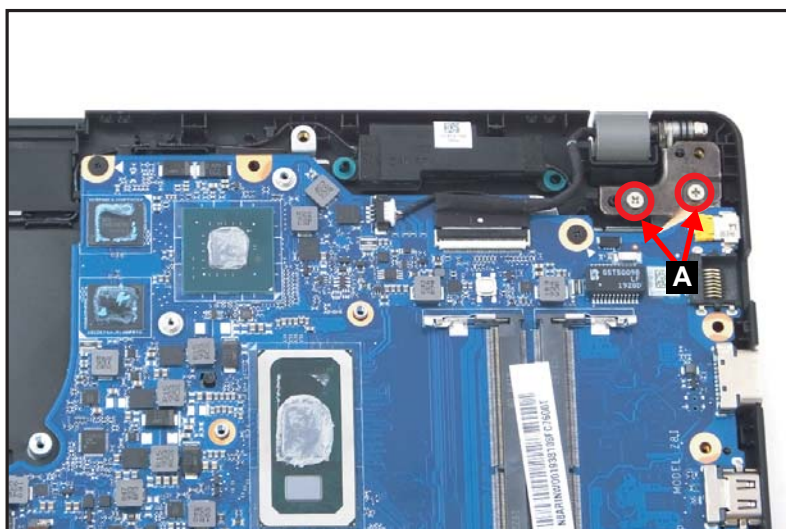

Figure 1-41. Mainboard Removal
1. Remove two (2) screws (A) securing the right side of LCD hinge in place (Figure 1-41).